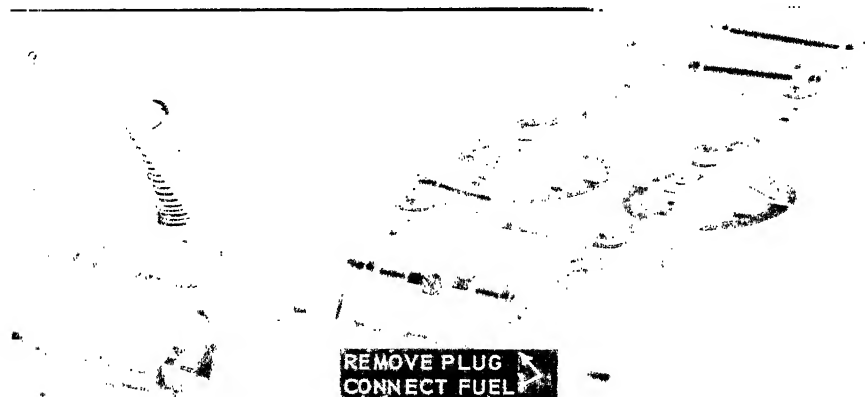

FIGURE 10. EXTERNAL FUEL SOURCE CONNECTION
6. External Fuel Source. Refer to Figs. 10 and 11 and install the external fuel source connection.